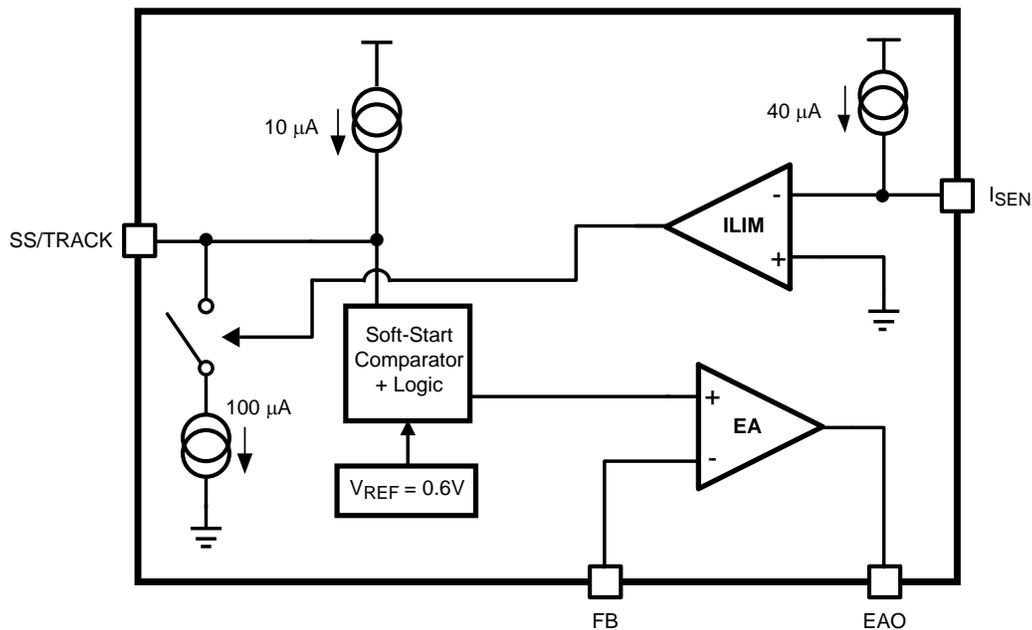

Figure 2. Error Amplifier and Current Limit Block Diagram
In a typical output short circuit to ground event, the input differential across the error amplifier (EA) will try to force maximum duty cycle pulses. This response increases the average inductor current every cycle until the inductor current exceeds the current limit threshold. In order to minimize the time period in which peak inductor current exceeds the current limit threshold, the LM274X discharges the soft-start (SS) capacitor. Once the SS pin voltage ( $V_{SS}$ ) is lower than the reference voltage ( $V_{REF}$ ),  $V_{SS}$  will take control of the non-inverting input of the EA and will reduce the duty cycle during this condition. For a simplified block diagram, see Figure 2.